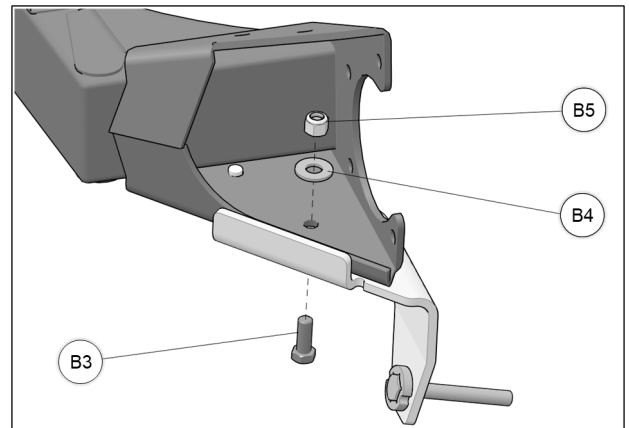

Fig. 8
7. Insert a 3/8-24 mounting bolt (**B3**) from the bottom and secure anchor bracket with provided nut (**B5**) and washer (**B4**). Tighten to 40 N•m [37 lb•ft] of torque. See Fig. 8